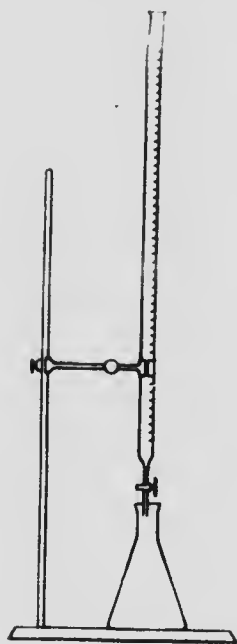
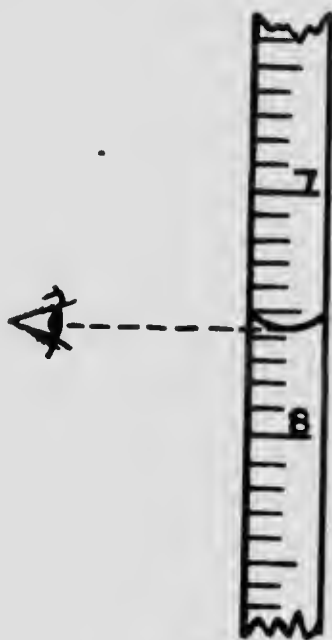

FIG. 39.
FIG. 40.
**Sketch.**—Fig. 39.
(1) Pour water into the burette from a beaker, place a flask below the burette, and quickly open and close the pinch cock until the glass tip is filled with water (Fig. 39). Practise running the water out of the burette, also read the burette to the bottom of the meniscus (Fig. 40). Do this several times.
(2) Empty the water out of the burette and beaker. **Carefully dry the beakers.** Take the beakers to the draught cupboard and obtain 100 cc. of standard sodium hydroxide solution and 100 cc. of standard hydrochloric acid solution, **keeping the solutions separate.**
(3) Rinse the burette with about 5 cc. of the standard sodium hydroxide solution to remove any water there may be in the burette. Empty, and fill to the top with the standard solution.